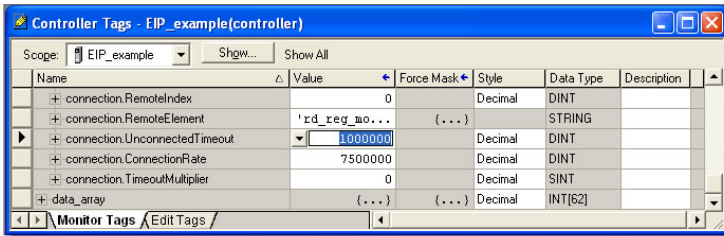

Figure 93: Reduce the UnconnectedTimeout Value
- e) Select the “Monitor Tags” tab. Expand the “connection” tag by clicking on the “+” sign next to the tag name. Scroll down to the connection.UnconnectedTimeout field and change its value from the default 30000000 (30s in 1uS increments) to 1000000 (1s). This value determines how long to wait before timing out and retransmitting a connection request if a connection failure occurs. Refer to Figure 93.